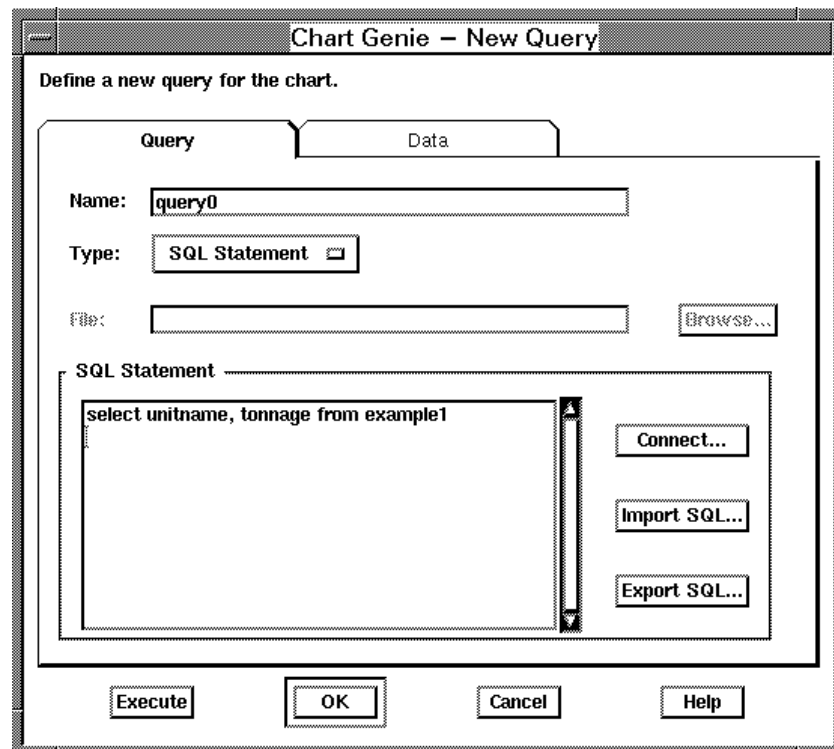

Figure 3-80. Simplified version of Query for Graphic
2. Build the graphic template, using a simplified version of the same query, Figure 3-80.